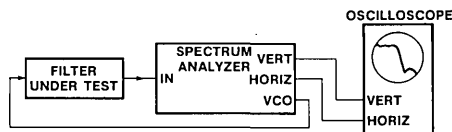

Figure 2. Filter Test Mode Setup
Other mixing schemes can be used to extract the spectrum. However, this "direct conversion" approach has two significant advantages. As shown in Figure 2, the swept oscillator output can be used to plot the frequency response of an audio filter. Other schemes require additional mixing to achieve the same results.
The VCO output is buffered using FIFOs to provide a uniform high-speed sample rate. The VCO output is 12 bits wide, providing a signal-to-quantization noise ratio of 91 dB, using Equations (5) and (7). The calculation assumes a 500-Hz bandwidth. A smoothing filter at the VCO output is not necessary. The filter test configuration of Figure 2 allows the input aliasing filter to remove the effects of VCO high-frequency components, as long as the filter under test is a linear analog circuit.